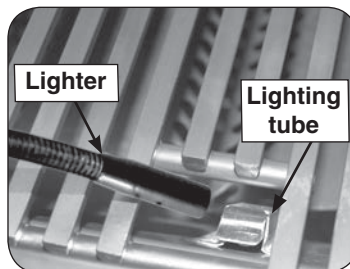

Fig. 27-2 Manual lighting via lighting tube
2. Insert either a burning long-barrel butane lighter or a burning long-stem match through the cooking grid opening to the top of the lighting tube (Fig. 27-2). For backburners or infrared burners, hold the flame against the surface of the backburner/infrared burner. Grills equipped with an infrared burner include a wire extension match holder (attached to drip tray) to assist with manual lighting (Fig. 27-3).
4. If the burner does not light within five (5) seconds of turning the control knob, **immediately depress the knob and turn the valve to OFF**. **WAIT FIVE (5) MINUTES** before repeating steps 2 through 4 of the **MANUAL LIGHTING** instructions.